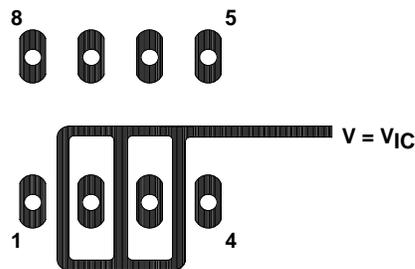
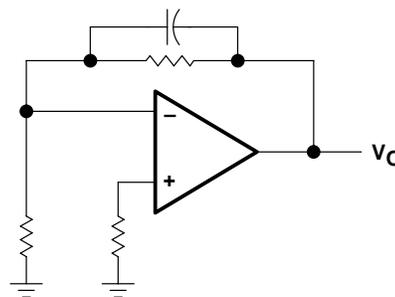

Figure 101. Isolation Metal Around Device inputs (JG and P packages)
**Figure 107. Guard-Ring Schemes**
1. Isolate the device from other potential leakage sources. Use a grounded shield around and between the device inputs (see Figure 101). Leakages that would otherwise flow to the inputs are shunted away.
Because of the extremely high input impedance and resulting low bias current requirements, the TLC271 is well suited for low-level signal processing; however, leakage currents on printed circuit boards and sockets can easily exceed bias current requirements and cause a degradation in device performance. It is good practice to include guard rings around inputs (similar to those of Figure 101 in the Parameter Measurement Information section). These guards should be driven from a low-impedance source at the same voltage level as the common-mode input (see Figure 107).